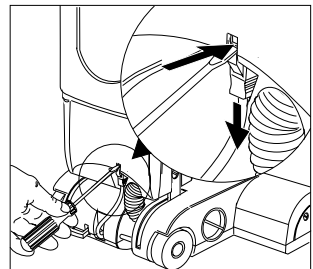

Figure 14
- Undo the connecting cable, release the plug by pressing in a pointed object (e.g. screwdriver). <Figure 14>